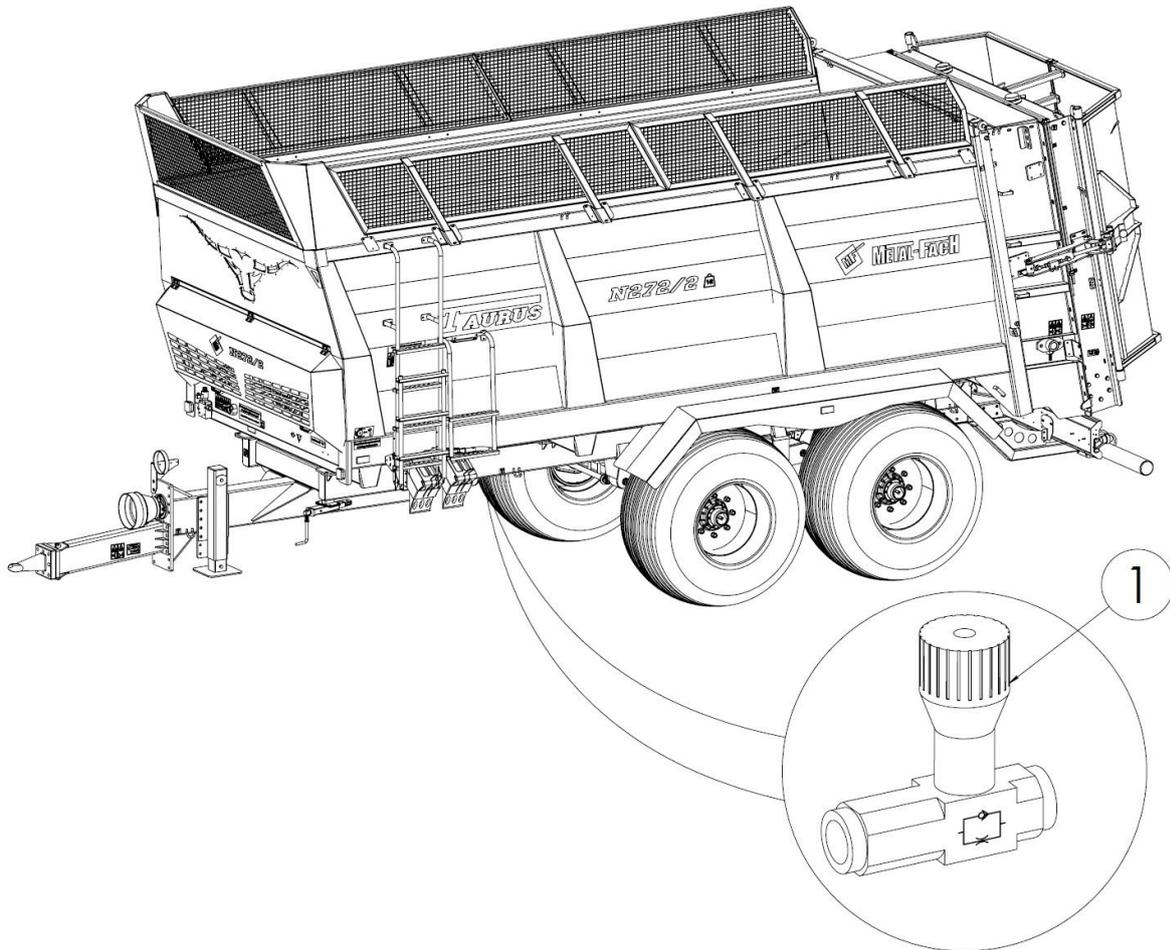

Figure 33. Flap opening control
On spreaders with throttle valves (1) in the hydraulic system for opening the adapter body (Fig. 33), it is possible to increase or decrease the opening speed. The opening speed of the guards has been pre-adjusted at the factory, and the opening and closing time should be between 8 s and 12 s.